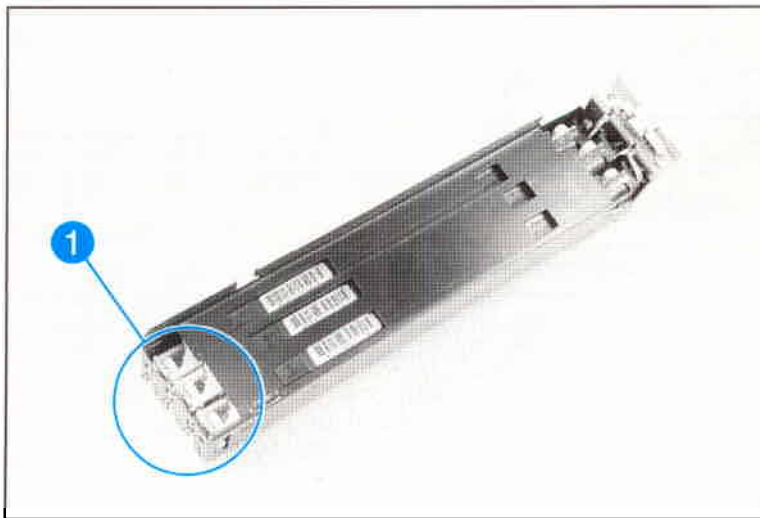

Figure 7-9 Developer Bias Contact Pins
1. Remove each developer and check their pin contacts (see Figure 7-9, item 1).